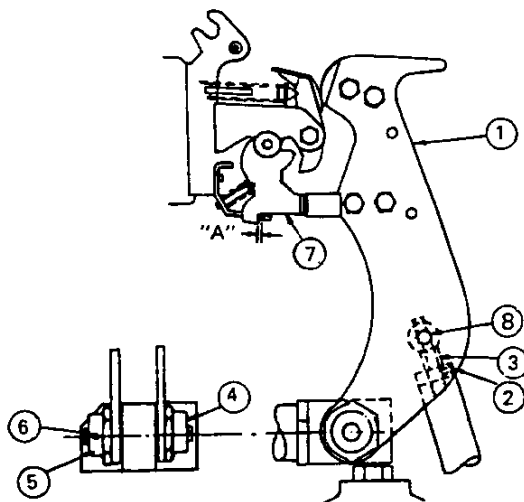

Fig. 5 — Contact Pressure and Bridge Pivot Pressure
5.2 CONTACT PRESSURE (See Figure 5)
5.6 BRIDGE PIVOT PRESSURE (See Figure 5)